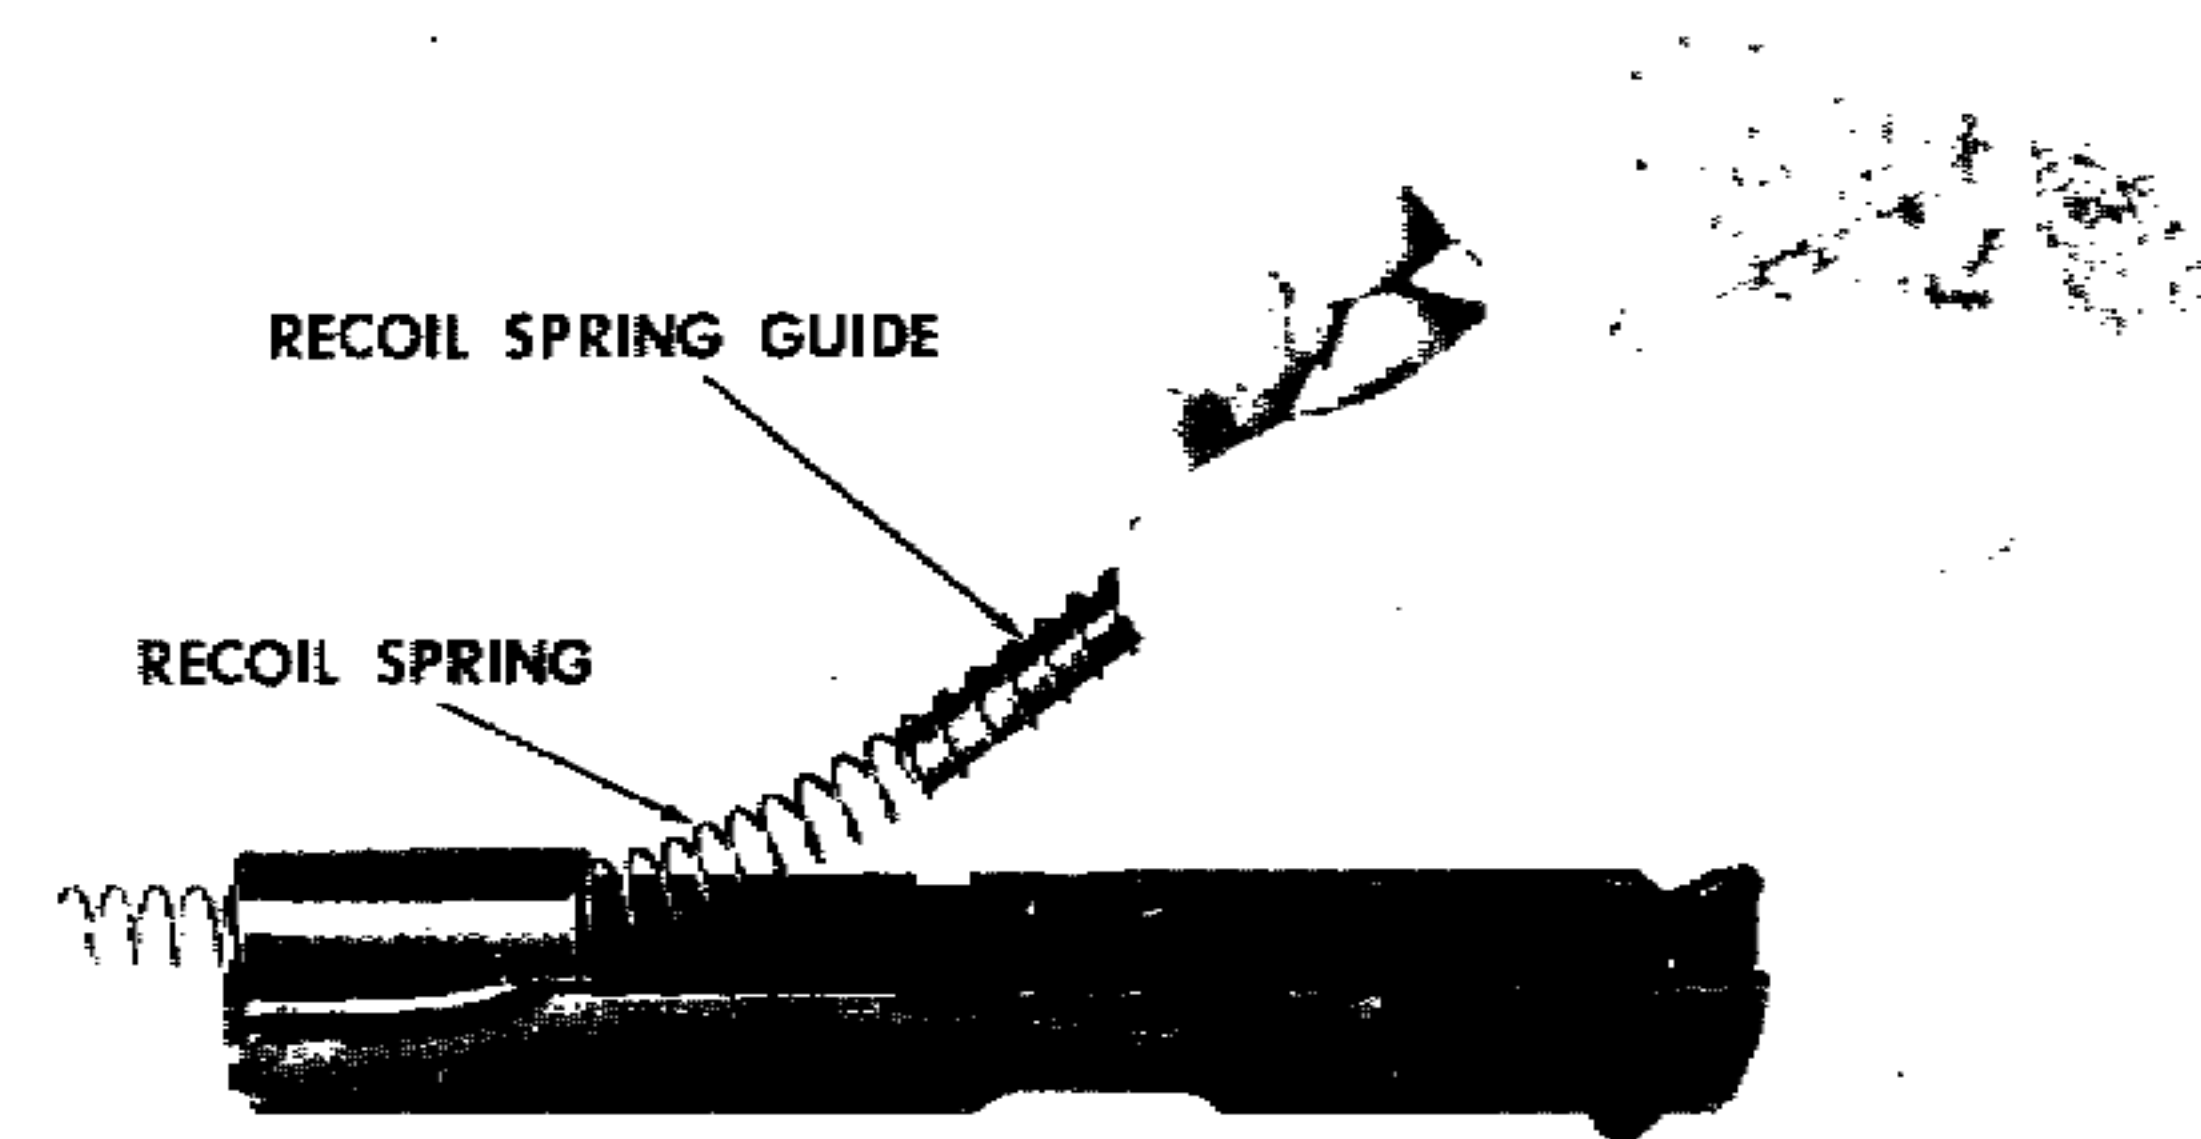

Figure 10. Remove the recoil spring guide and recoil spring. Separate the two parts with a twisting action.
General disassembly is the disassembly necessary for normal care and cleaning. General disassembly consists of the removal of the parts shown in figure 10.
c. *Recoil Spring and Recoil Spring Guide.* Insert the recoil spring guide into the tightest end of the recoil spring. Replace these parts in the slide (fig.10.). Be sure that the concave cut on the recoil spring guide collar is properly seated on the barrel. Push the barrel, recoil spring, and recoil spring guide fully forward in the slide, insuring that the barrel link is positioned